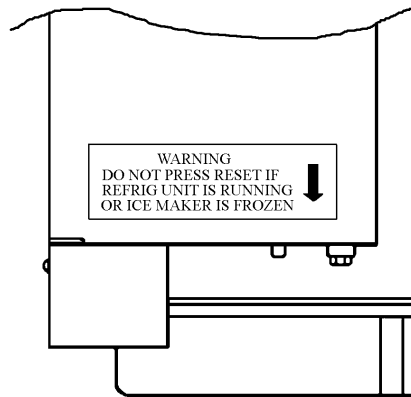

FIGURE 13.
2. Gear motor thermal overload, manual reset type (red button on motor). See FIGURE 13.